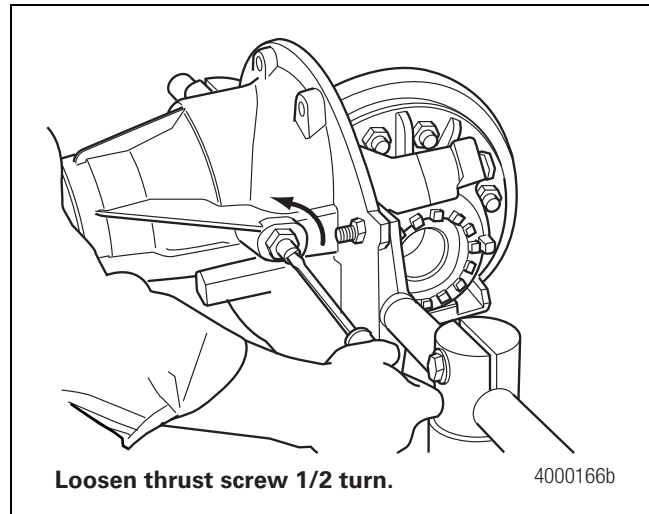

Figure 5.51
2. Loosen the thrust screw 1/2 turn or 180 degrees. Figure 5.51.